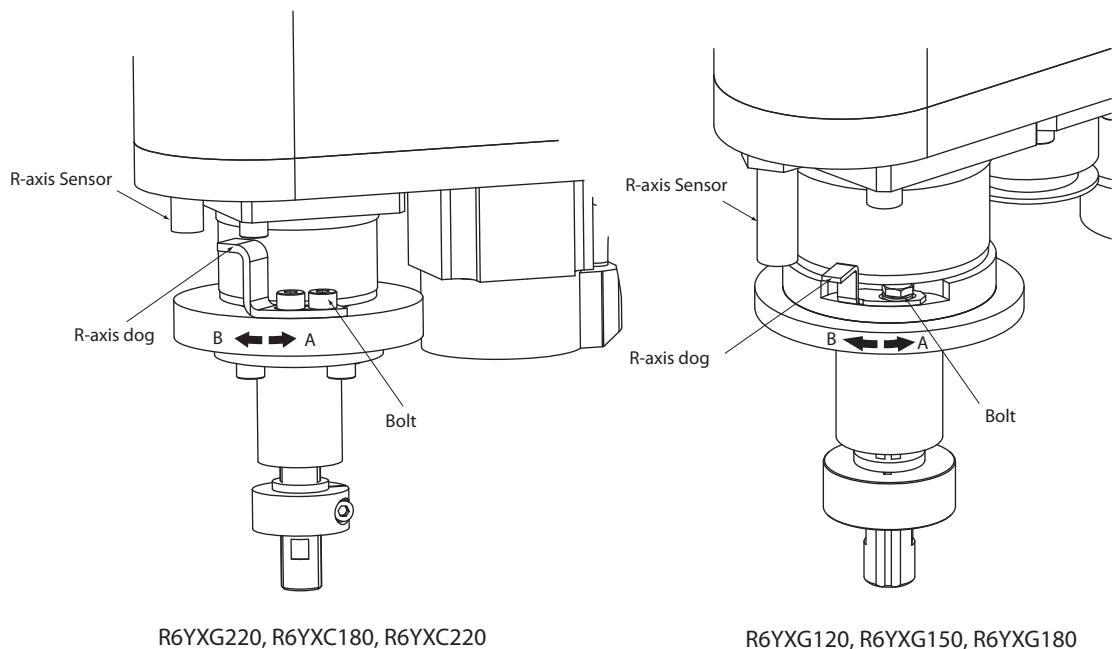

Fig. 4-12
- Using a wrench (5.5mm width across flats, 2mm thickness), loosen the bolt (1 piece) securing the dog on the R-axis joint. (R6YXG120, R6YXG150 and R6YXG180)(See Fig. 4-12.)